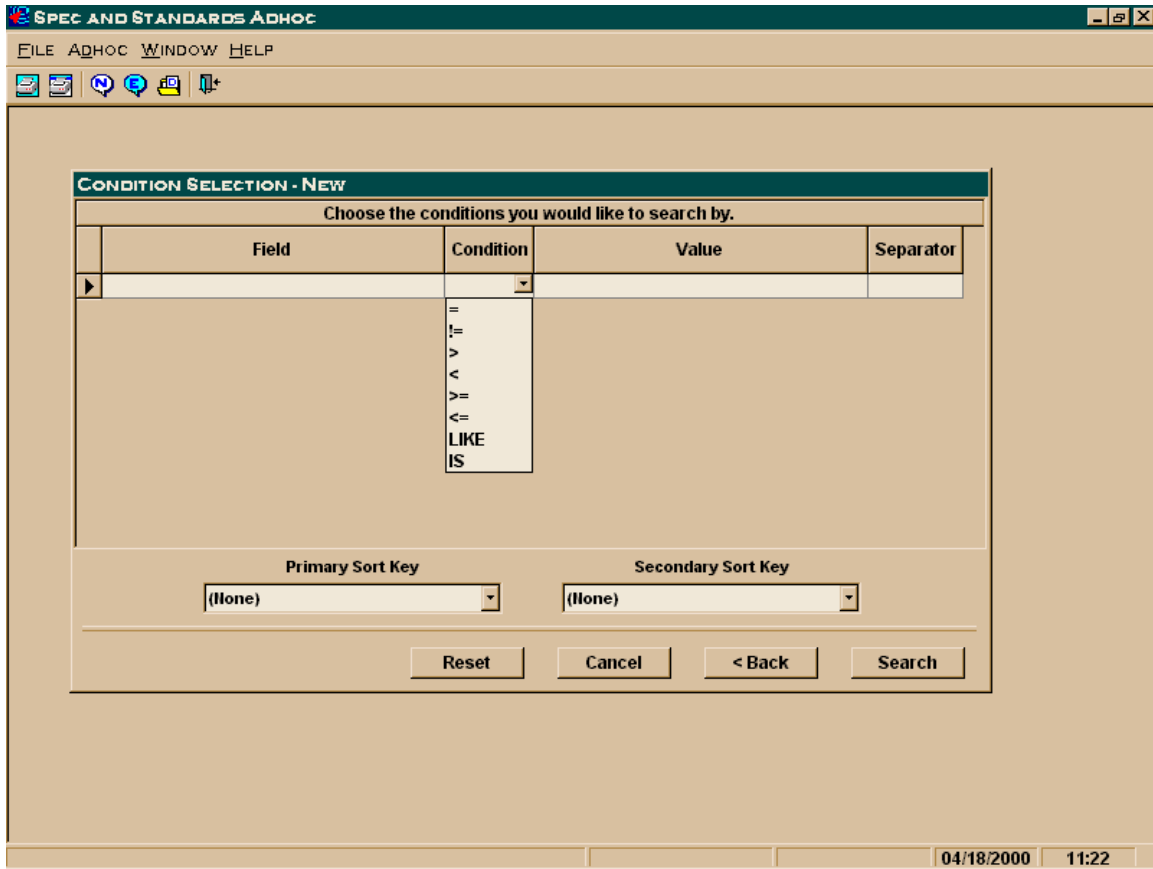

Figure 6.4e
f. The Condition Selection window is now displayed (see Figure 6.4d). Click on the arrow to the right of the Field option to bring up all available elements in the table or tables you first selected (notice that all elements are visible, not just the ones you selected to be displayed in the output of your query). Before starting your query, think about what you want to query in this table. Select an element that you want to query from the Field drop-down list and decide on the condition (see Figure 6.4e) to apply to this data element (=, !=, >, <, >=, <=, like or is).